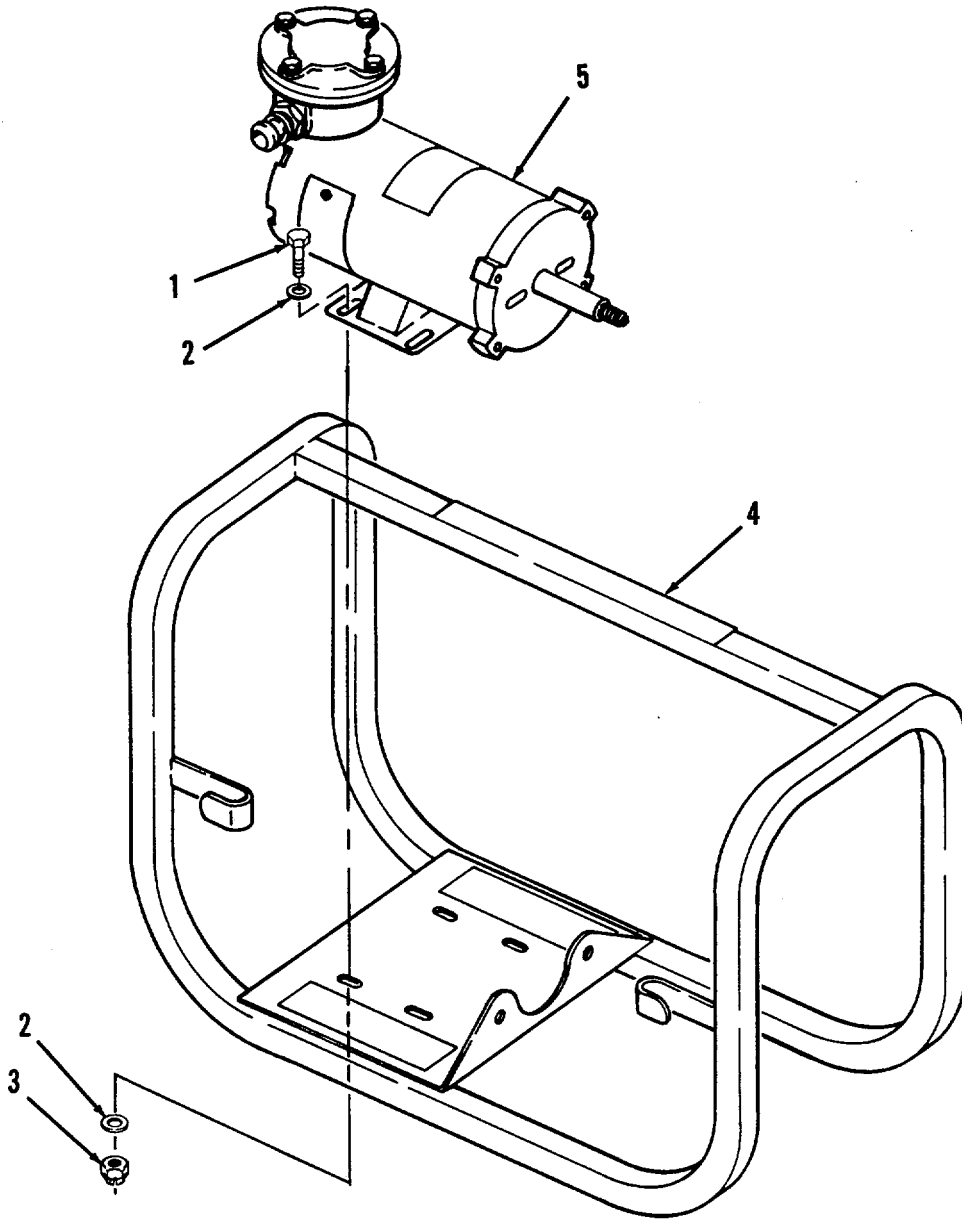

Figure 5-3. Motor Assembly Replacement.
a. Removal. (Refer to Figure 5-3).
- (1) Remove four bolts (1), eight flat washers (2), and four lock nuts (3). Discard lock nuts.
- (2) Remove motor (4) from frame (5).